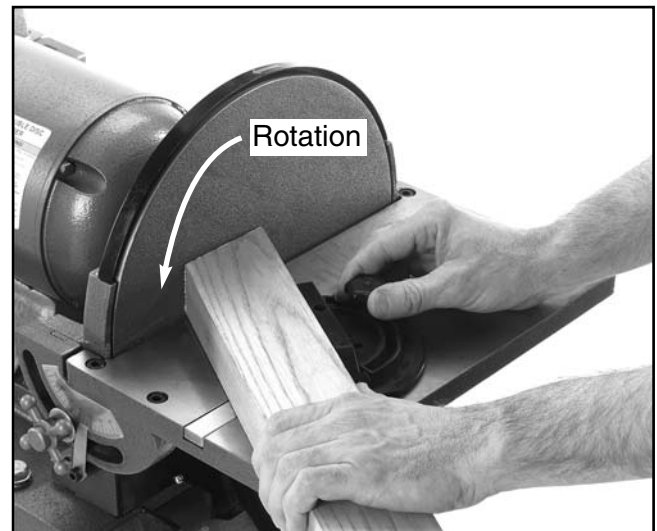

Figure 9. Mitering with gauge reversed.
3. With light, but firm pressure, push the workpiece slowly into the downspin side of the rotating disc. **See Figure 9.**